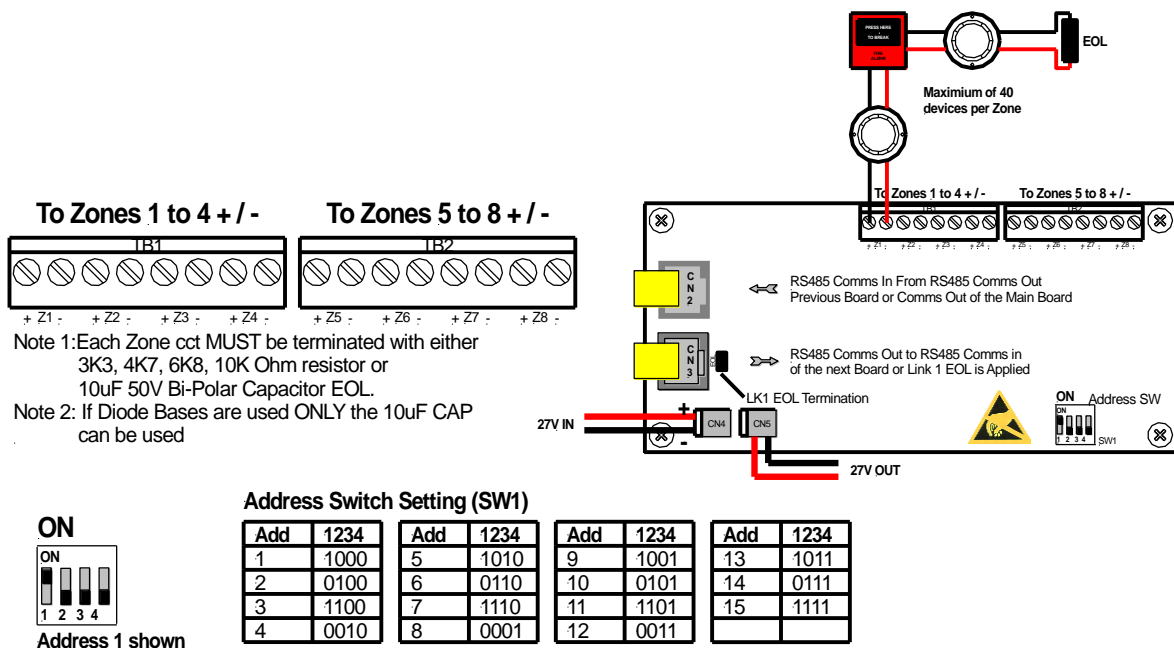

Figure 1: 8 Zone Conventional Board PCB Layout
- SW1** Address set SW as shown in Figure 1